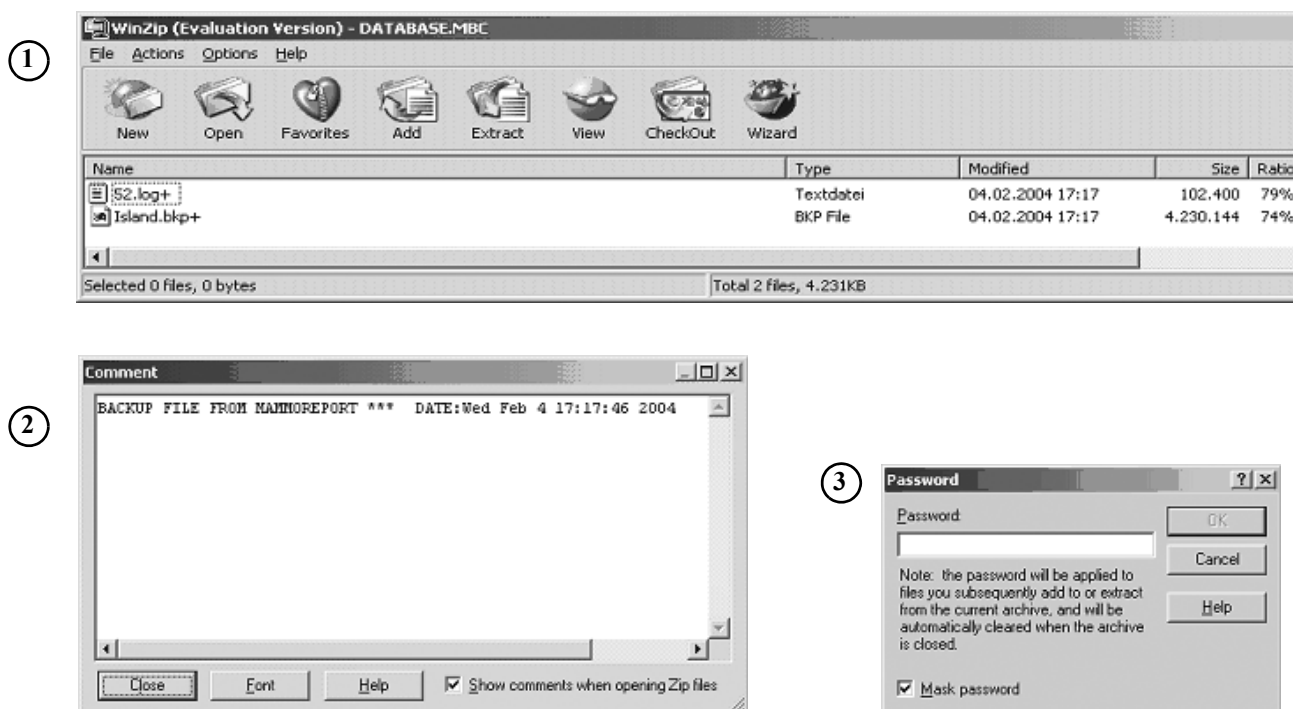

Fig. 27 Winzip, Comment and Password Window
5. Program Winzip is displayed with an archive containing **at least one** log file and a file **island.bkp** with a plus beside. As well a comment window is shown, containing "BACKUP FILE FROM MAMMOREPORT...." (see Fig. 27. (1) and (2))
9. Click "Extract". A window to enter a password is displayed (see Fig. 27 (3)).